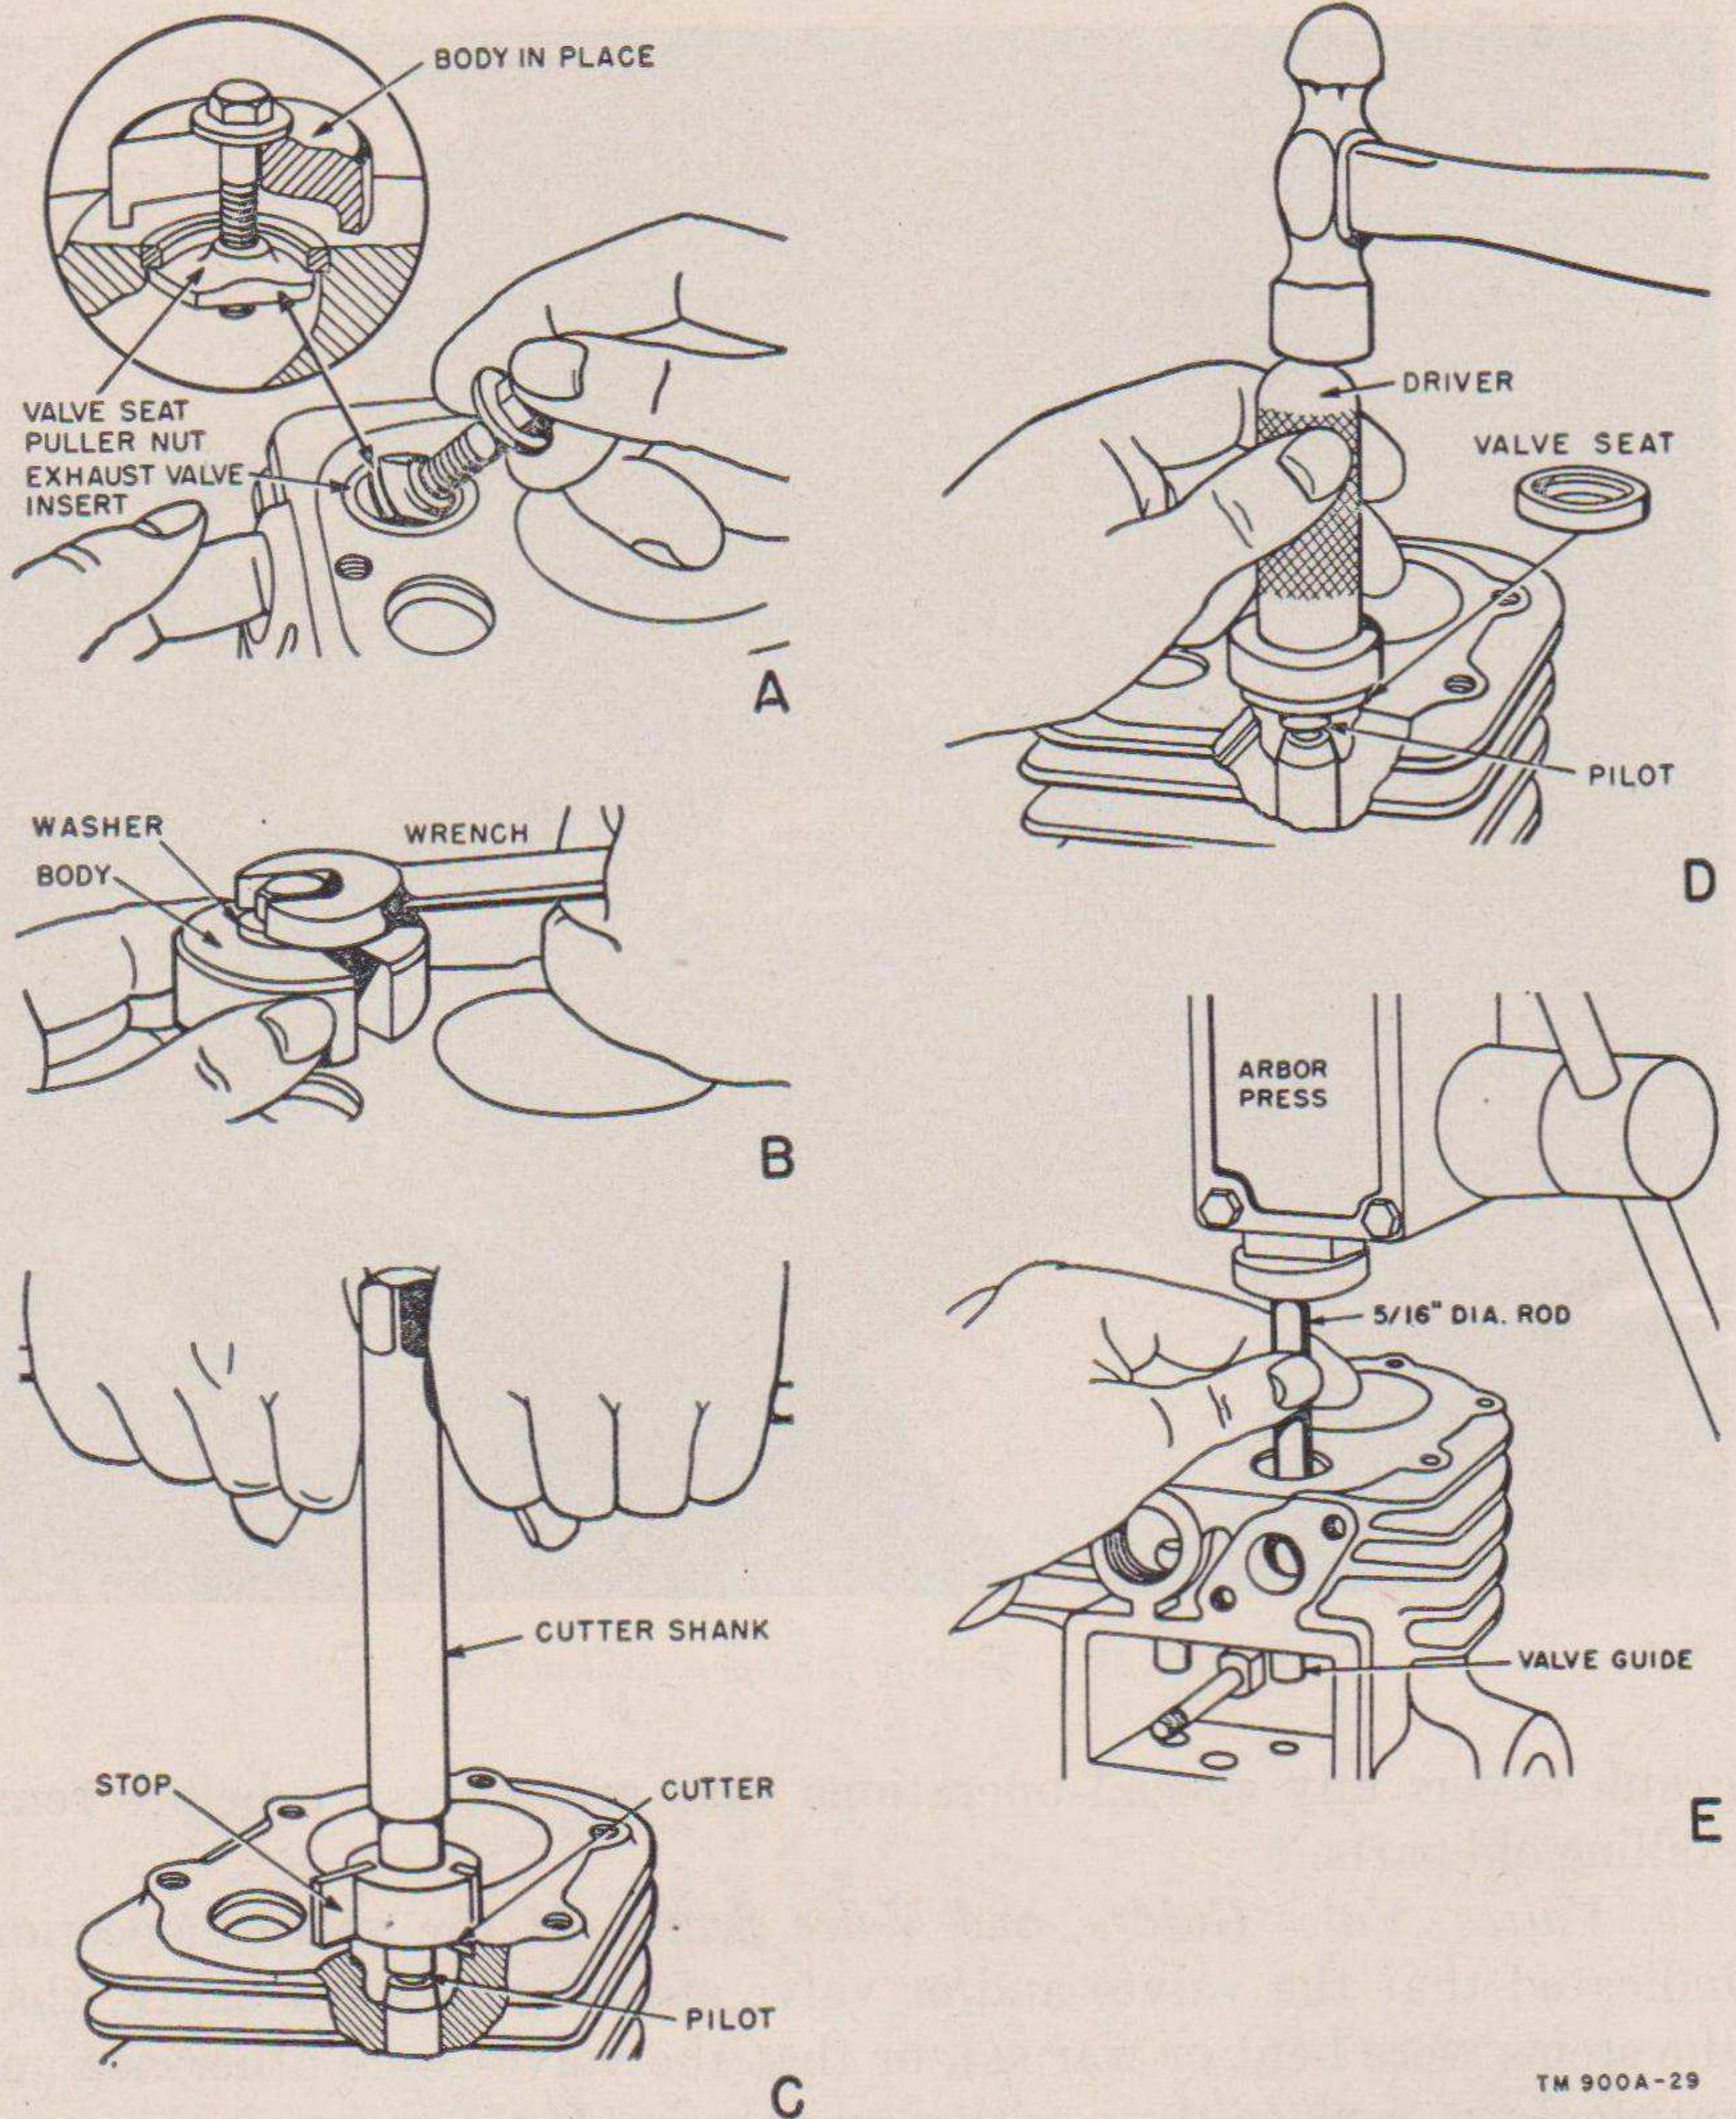

Figure 29. Replacing valve seat insert and valve guide.
- (1) Test the valve guides with Briggs and Stratton plug gage No. 69829-T19. Try the gage in several positions because the hole may be out of round. If the gage enters the valve guide freely, a new valve guide must be installed. For the inlet valve, use valve guide, Signal Corps stock No. 3H2485-11. For the exhaust valve, use valve guide, Signal Corps stock No. 3H2485-10. Use a piece of $\frac{5}{16}$ -inch rod and an arbor press and press the old guide about $\frac{1}{2}$ way out. Break off the exposed portion of the guide and then push the remaining portion of the guide out of the cylinder block (E of fig. 29).
- (2) Insert the new value guide into the valve guide hole and press it into place with a piece of $\frac{5}{16}$ -inch rod and an arbor press. Do not press the guides all the way down. The top of inlet
- (3) If the valve seats were found unsatisfactory upon inspection, remove and replace them as follows:
- (a) Insert the valve seat insert puller, Briggs and Stratton No. 290914 (A of fig. 29).
- (b) Tighten the cap screw (B of fig. 29), until the valve seat insert is pulled free.
- (c) Insert the counterbore cutter pilot, Briggs and Stratton No. 61348-T1-23, in the valve guide (C of fig. 29).
- (d) Place the counterbore cutter (Briggs and Stratton No. 61348-T1-63) on the cutter shank (Briggs and Stratton No. 61348-T1-43) and insert the tee handle (Briggs and Stratton No. 61348-T1-53) in the shank. Counterbore the insert hole, by hand, until the stop on the cutter touches the top of the cylinder (C of fig. 29). *Be careful not to force the cutter to one side as this will cause it to cut oversize.*
- (e) Remove the cutter and pilot. Place the new valve seat insert in the recess and replace the pilot in the valve guide. Use the driver (Briggs and Stratton No. 61348-T1-122) and drive the insert into place (D of fig. 29).